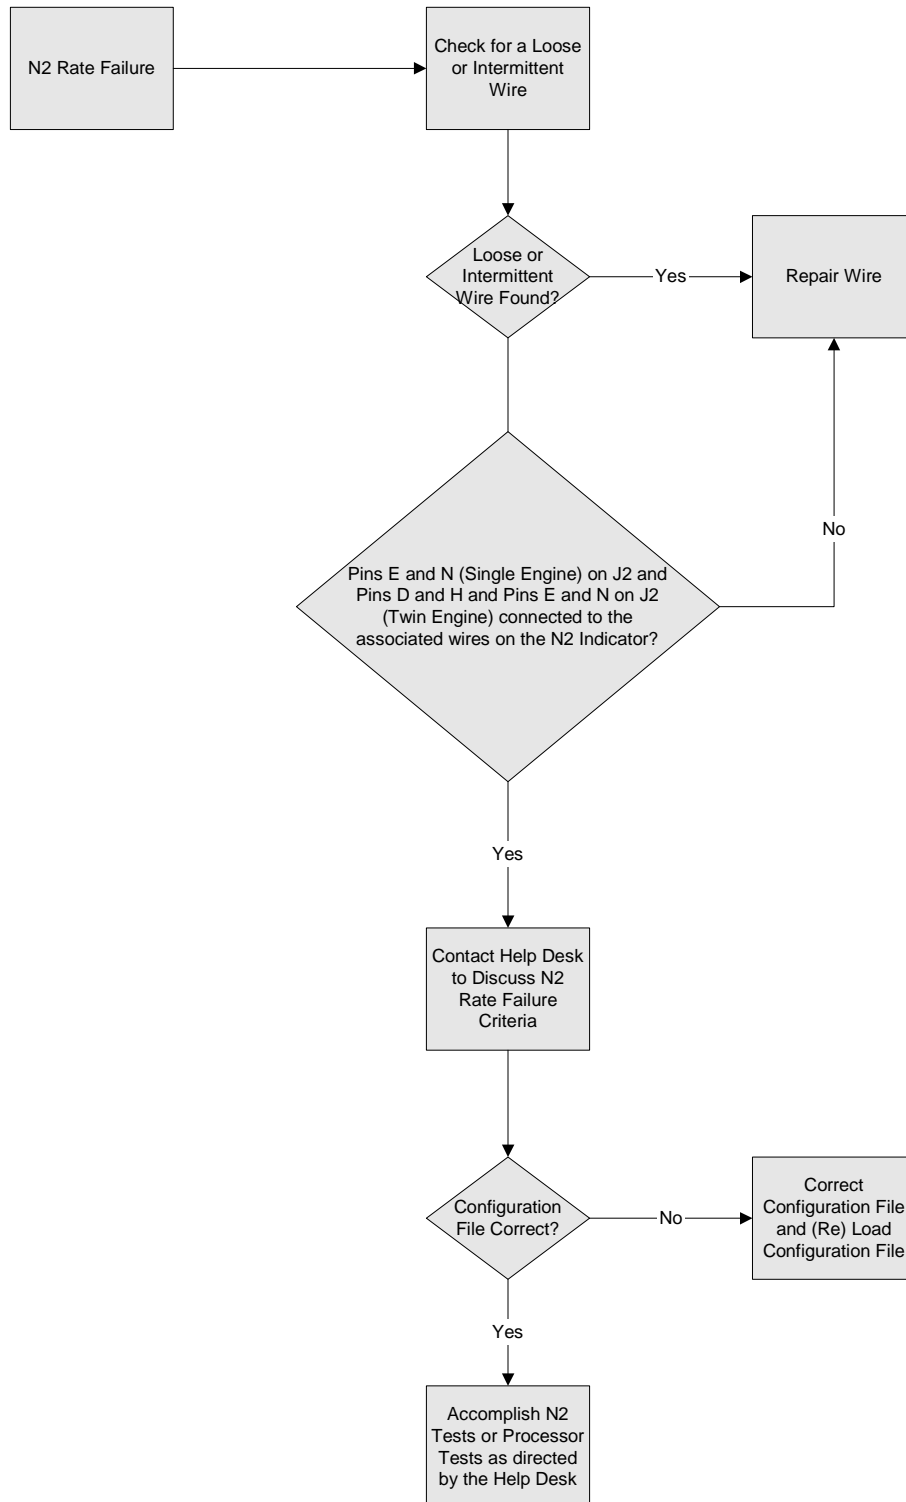

Figure 36: N2 (Np) Rate Failure Troubleshooting.
- c. Rate Failure – Refer to Figure 36